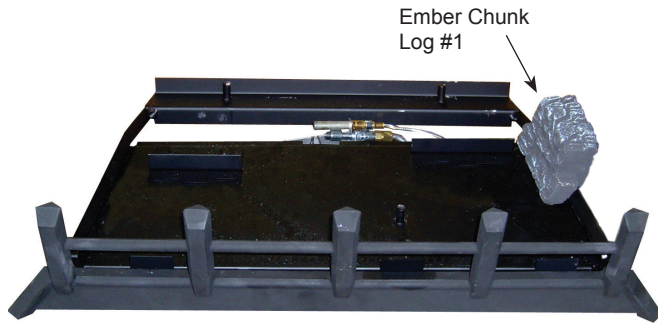

Figure 24. Place Ember Chunk Log #1
1. Place the #1 log (the "chunk") on the grate bar right side of the burner adjacent to the controls. *Figure 24*